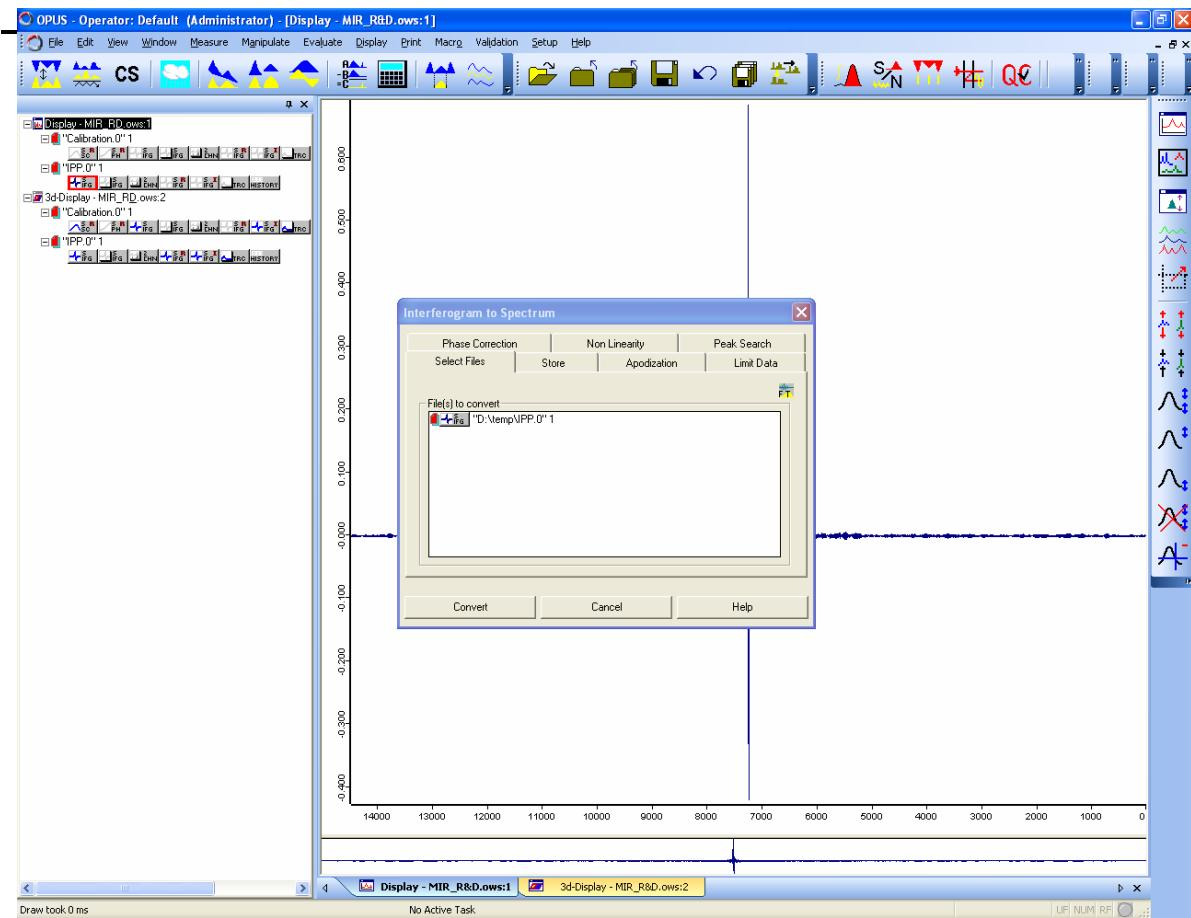
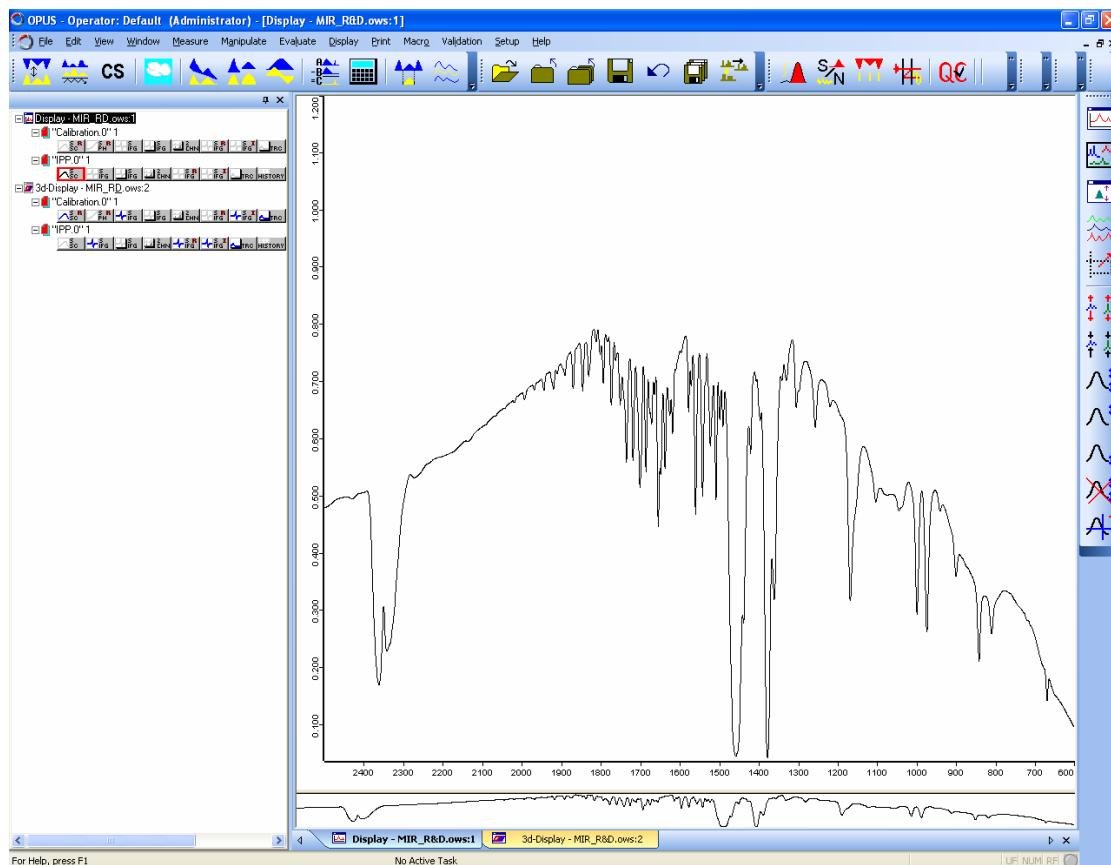

Fig. 25: Applying the “Interferogram to Spectrum” function to the constant interferogram of the sample measurement
Fig. 26: Constant part of the single channel sample spectrum
- Select the data block “IFG” of the file resulting from the sample measurement. This data block contains the part of the sample infrared signal which is independent from the modulation. Select in the “Manipulate” menu the “Interferogram to Spectrum” function. Thereupon, the “Interferogram to Spectrum” dialog window appears. (See figure 25.) This time, deactivate your “Save Phase” check box on the “Store” page. For the other parameters, use exactly the same settings as done before in case of the file resulting from the calibration measurement. Click on the “Convert” button. As a result, an additional data block “**SSC**” will be added to the file resulting from the sample measurement. (See figure 26). This file contains the constant part of the single channel sample spectrum which is independent from modulation.